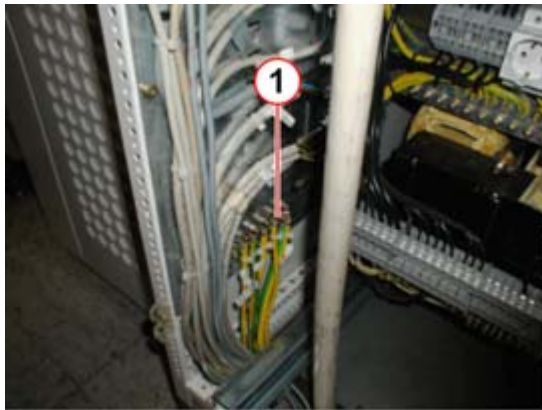

Fig. 18: Protective conductor cables - PDC
- ⇒ Disconnect both protective conductor cables in the PDC (Gantry PE301 and W2) for the measurement. (1/Fig. 18 / p. 37)(For checking the protective conductor cable for possible cable breaks in the energy chain).